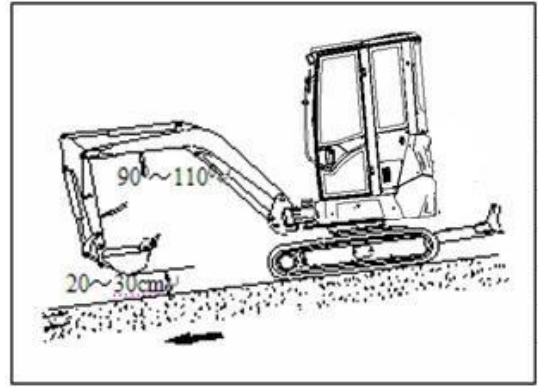

FIG. 4.4.8
- 8) The machine should travel at low speed and in a pose shown in FIG. 4.4.8 when it is traveling down on a slope of 15° or more.